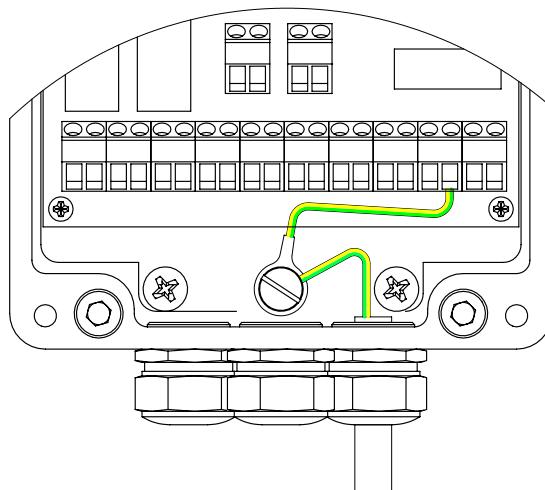

Fig. 2-5 LMU grounding when using a 230, 115 or 48 VAC supply
4. When using a 230 VAC, 115 VAC or 48 VAC supply always connect the LMU to the ground as shown on *figure 2-5* :